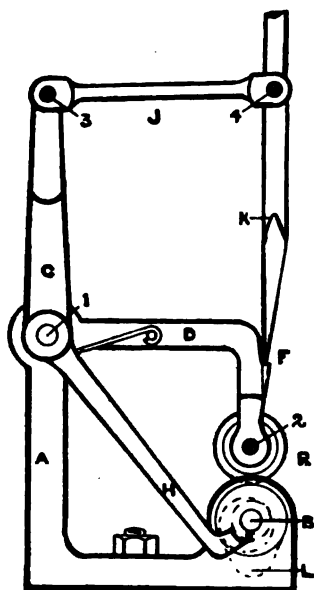
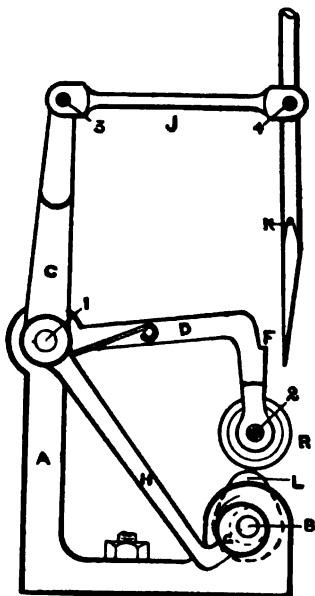
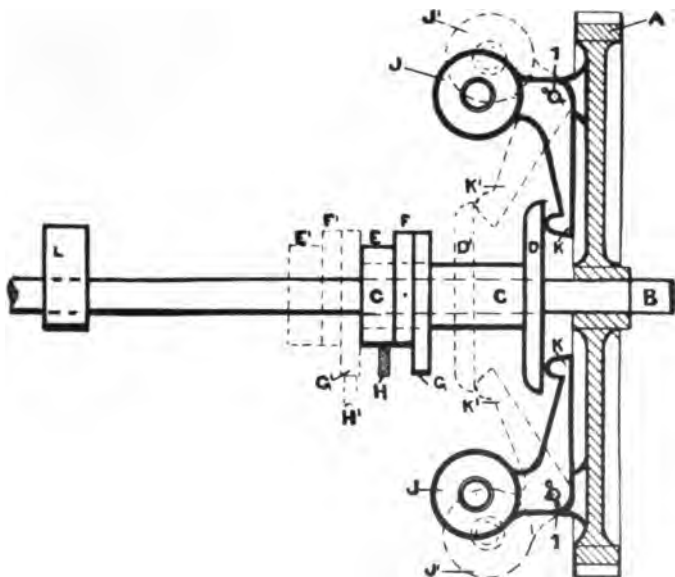
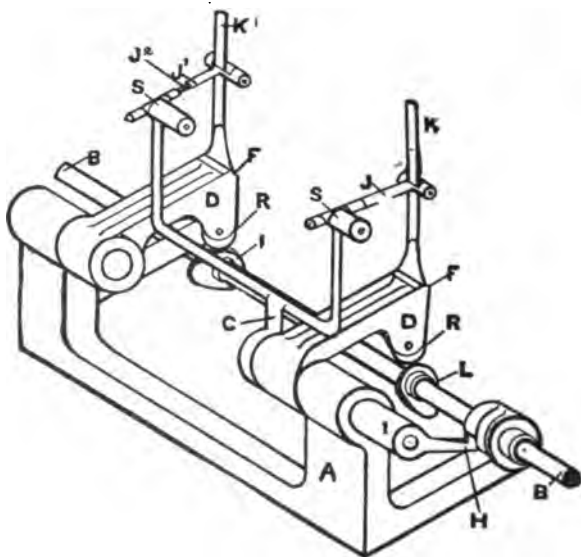

Fig. 14
Fig. 15
Fig. 17
Fig. 18
Figs. 14 and 15 show a side view of the mechanism which operates the Daimler exhaust valve. Taking fig. 14 first:— κ corresponds to the stem of the exhaust valve marked F in fig. 6, while the shoulder F is the plunger, which, acting upwards, pushes the valve open and so allows the exhaust gases to escape. R is a roller free to revolve on the spindle 2. B is the two-to-one shaft marked D in fig. 6, and L is the cam on this shaft corresponding to cam E in fig. 6. It is shown in dotted lines because it is not visible when looked at from this aspect. It will be seen, however, on shaft B in fig. 15.
We will now turn to fig. 15. This shows how the various systems of levers in fig. 14 operate so as to prevent one or more of the exhaust valves from opening, and so make the engine cut out on one or more cylinders by preventing the ingress of a fresh charge of mixture to the combustion chamber. It will be seen that the eccentric portion of the cam L is now uppermost, and is bearing against the roller R , so as to elevate the arm D with its shoulder F . In fig. 14 the end of the spindle κ , which is commonly known as the digger, rests on shoulder F , but in fig. 15 it will be observed that κ has been pushed outward by the arm J , so that the point of the digger
We shall now explain how this is accomplished. The arm H, commonly known as the hammer, is the direct medium through which this change is effected. It will be seen in fig. 14
that it rests on a perfectly circular collar, E, whereas in fig. 15 it has mounted on to a cam, G, which is fixed eccentrically on to the shaft B. This cam G is so mounted on shaft B, that when the protruding portion of cam L is pushing up the roller R, the hammer H rests on cam G, at the maximum
distance from the centre of shaft B. As a result, the hammer H is slightly depressed. Now H forms portion of the bracket C, and, consequently, when I is depressed it moves the bracket C slightly forward from the perpendicular, as seen in fig. 15. This, in turn, pushes forward the spindle K, so that the digger at the end of it misses the shoulder F, as shown in the diagram. A careful study of figs. 14 and 15 side by side, and the angles of the various arms and brackets, will show distinctly how their position is altered to accomplish the end in view. Fig. 17 shows a perspective view of the mechanism which will further help the reader.
The mechanism which operates the hammer H is commonly known as the governor, and is clearly shown in fig. 17. This mechanism is attached to shaft B. In figs. 14 and 15 the
end of this shaft is shown, whereas in fig. 17 a perspective view is given.
weight to fly outwards, describing a circle, and if the hand is revolved rapidly, the weight will fly still further out until the string forms a right angle with the perpendicular. Now *A* in fig. 17 occupies the position of the hand. It is a gear wheel attached to shaft *B* (the two-to-one shaft) and is operated by a smaller gear wheel on the engine shaft. *J, J* are two weights pivoted at one of the extremities of the gear wheel, and which of course are free to fly outwards when the gear is rapidly revolving.
Now we would ask our readers for a moment to look at the diagram irrespective of the dotted lines, as this represents the position of affairs when the gear wheel *A* is at rest. It will be observed that there are two arms *K, K*, which carry the weights and are pivoted at *I*. *C C* is a sleeve which is free to slide upon the shaft *B*, and on this sleeve *C C* are two cams, *F, G*, and a collar *E*, the latter being a true circle, and the other two eccentrics. *H* represents the end of the hammer as shown in figs. 14, 15, and 16. Now, so long as *H* rests upon the circular collar *E*, the exhaust valves open in regular sequence (see fig. 14), and neither cylinder is cut out.
When the hammer *H* rests in this position on *c*, the arm *J*, fig. 15, is pushed so far forward that the diggers of the two cylinders both miss the shoulders *F*, *F*, and both exhaust valves remain closed, the speed of the engine immediately begins to slacken, and weights *J'*, *J'*, fig. 17, begin to return to their position of rest at *J*. Thereupon the hammer *H'* slips back on to the cam *F'*, and allows one exhaust valve to open, and one cylinder to come into action. If this is sufficient to run the car and engine at their maximum speed, as for example when descending a slight incline, the hammer remains there and only one cylinder works. If it is not sufficient, the weights *J'*, *J'* still further approximate to *J*, and the hammer slips back to the original position on the circular collar *K*, whereupon both exhaust valves open in turn, and both cylinders work at their full capacity.
L, shown further along shaft *B*, is the cam similarly lettered in figs. 14 and 15, which bears against roller *R*, and lifts arm *D*, which in turn raises the exhaust valve.
In figs. 14 and 15 we have only been able to show the way the cut-out motion works in connection with one cylinder. Fig. 18 depicts both, the lettering remaining the same.
There is one other bit of mechanism in connection with the governor which to prevent confusion we do not illustrate, and that is the accelerator. It consists of a lever which presses against the sleeve C C, fig. 17, and so opposes the action of the
(6) *Governing by Throttle*.—This system has come into considerable vogue recently, and is now used on Panhard, Napier, Daimler, and other cars. It consists in controlling the speed of the engine by regulating the quantity of mixture admitted to the combustion chamber. This is not done by means of a hand lever, as described in (1) and (2), but is automatically worked by a governor, similar to that described in fig. 17, but simpler. The system being the same, it is hardly necessary to describe it at length.